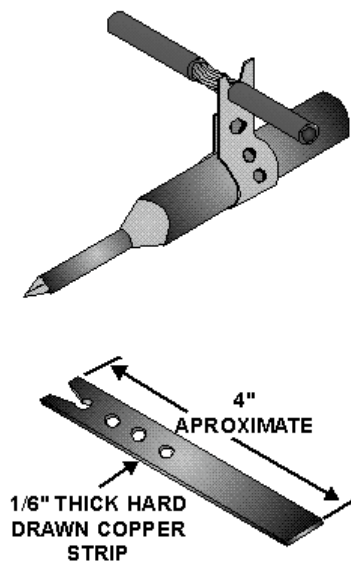

Figure 2-4.—Locally made hot-blade stripper.
If you are required to strip a large number of wires, you can use a locally made hot-blade stripper (figure 2-4) as follows:
2. Fasten the copper strip around the heating element of an electric soldering iron as shown in figure 2-4. The iron must be rated at 100 watts or greater in order to transfer enough heat to the copper strip to melt the wire insulation.